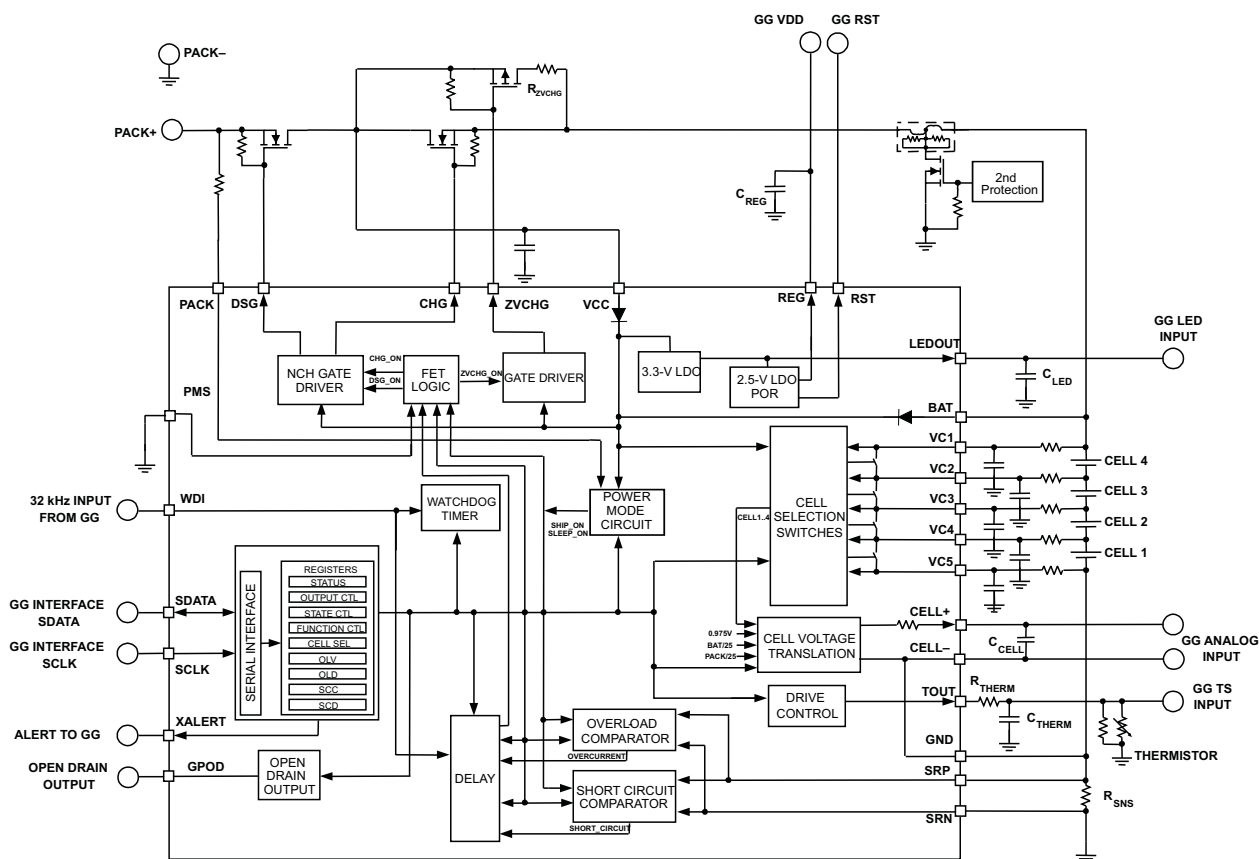

Figure 5. bq29330 Functional Block Diagram
1.2.3.2 The bq29330 Analog Front-End Protector The bq29330 AFE serves an important role for the bq20z70/z90 2-, 3-, or 4-cell lithium-ion battery pack gas gauge chipset solution. The bq29330 powers the bq20z70/z90 directly from its 2.5-V, 16-mA low-dropout regulator (LDO), which is powered by either the battery voltage or the pack+ voltage. The AFE also provides all the high-voltage interface needs (the battery cell voltage levels need to be down-converted to meet the input range requirement of bq20z70/z90 ADC) and current protection features. The AFE offers an I²C-compatible interface to allow the bq20z70/z90 to have access to the battery information and to configure the AFE's protection features. Other features of the AFE include cell balance control, thermistors drive circuit, precharge function, etc. A functional block diagram is provided in Figure 5.